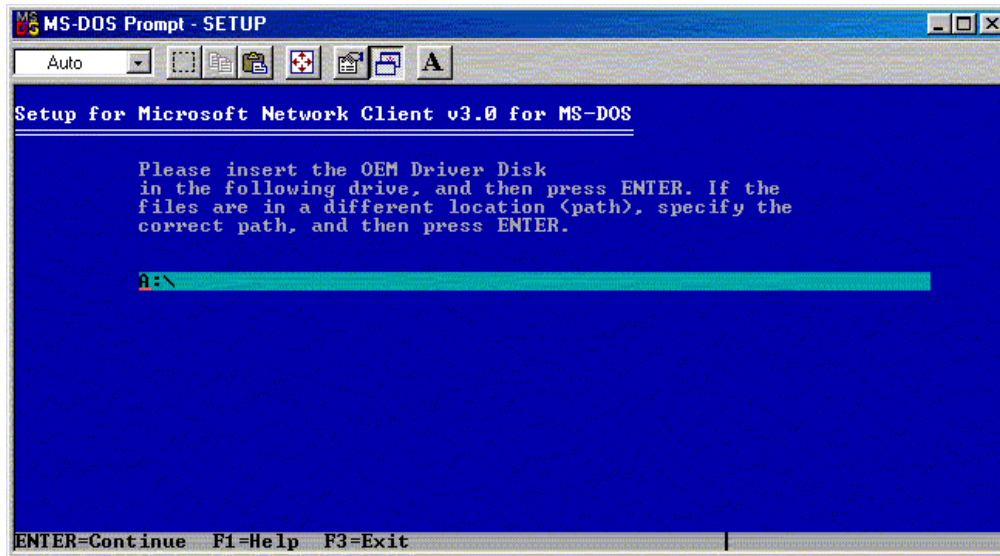

**Figure A-13: Protocol adapter bindings**
11. Highlight **Microsoft TCP/IP** and press the **Enter** key to add the protocol. A screen similar to Figure A-13 is displayed and shows the recently added protocol.